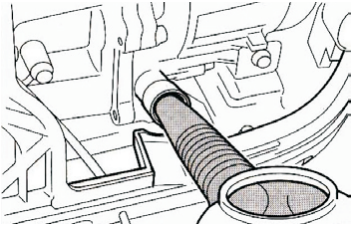
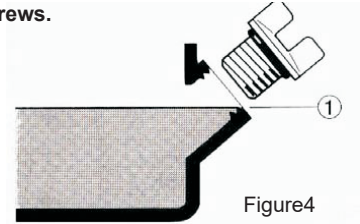

Figure3
Figure4
Using the funnel (provided) fill with 0.42 quart of SAE 10W-30 or 10W-40 (provided) (see figure 3). See figure 4 for proper oil level ①.